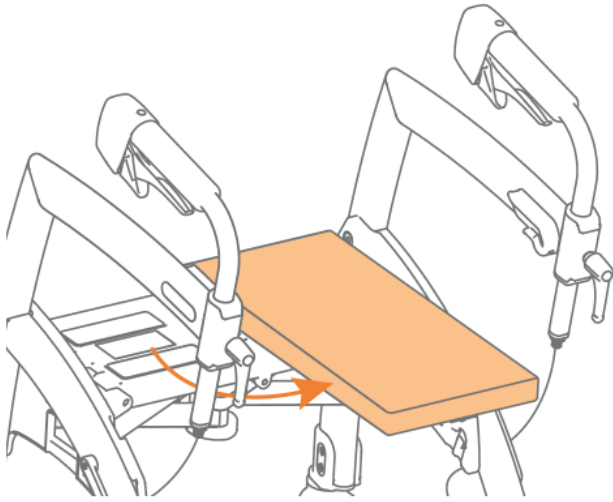

Figure 9
2. Pull the seat cushion away, turn it 90 degrees and place it crosswise on the side, above the red handle (Figure 9).